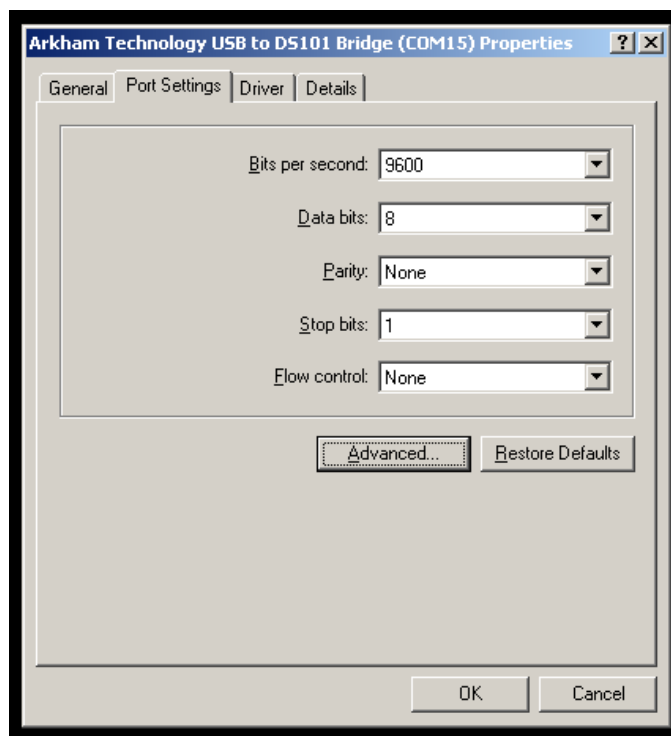

Figure 3-5: View Device Port Settings
3) Select on the *Port Settings* tab as shown in Figure 3-5